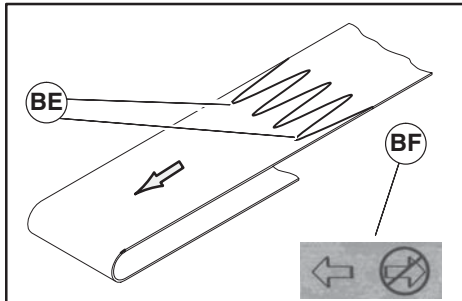

Figure 31
- Orient belt so splice leading fingers (Figure 31, item BE) point in the direction of belt travel as identified by the conveyor directional label (BF).